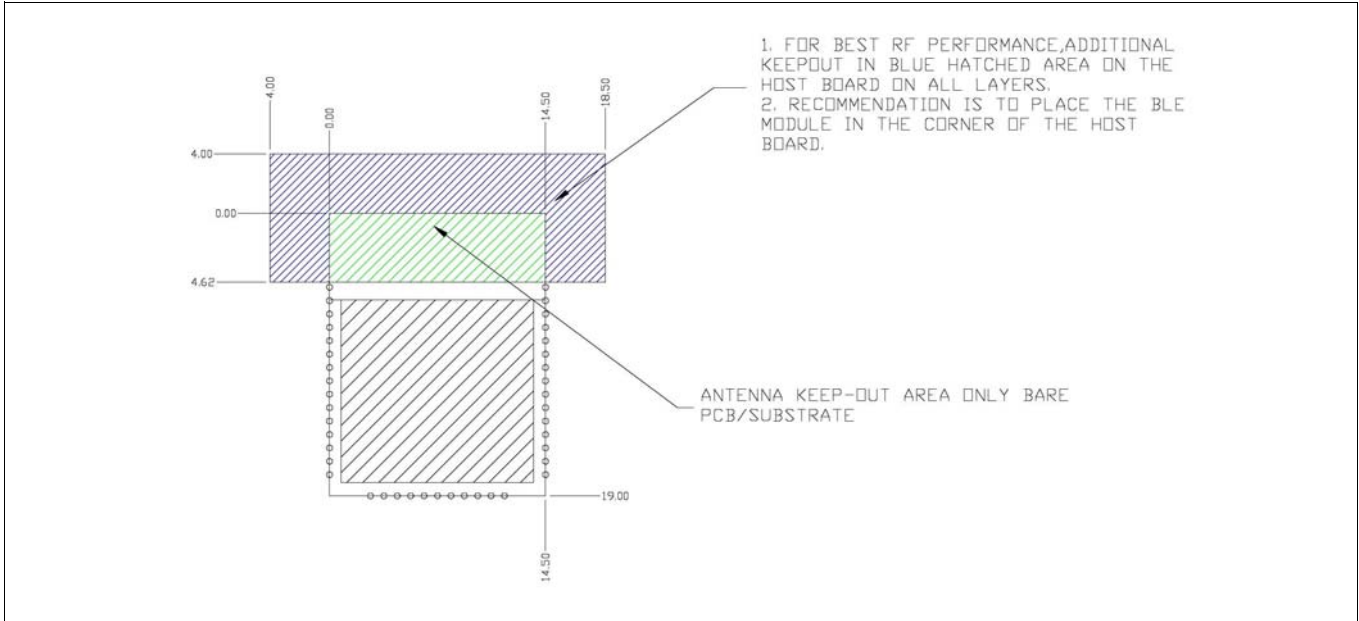
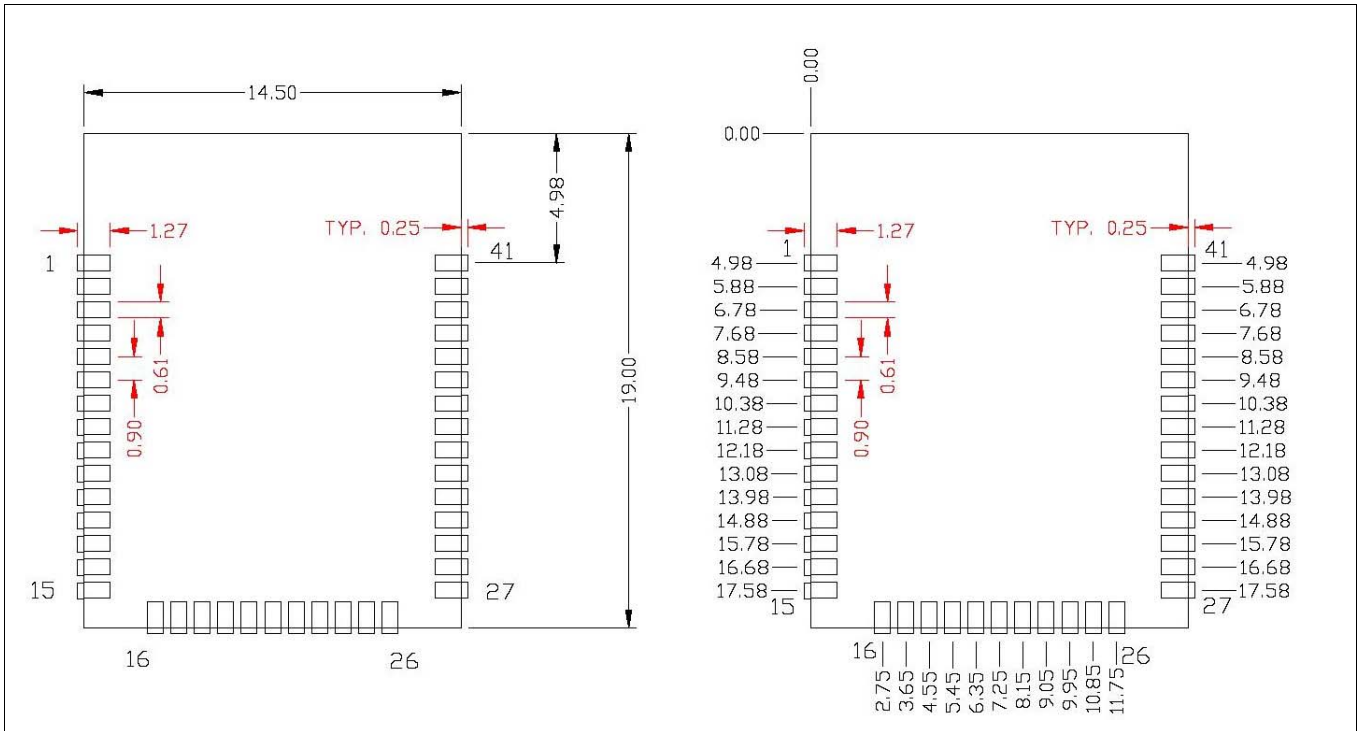

Figure 4 Recommended host PCB keepout area around the CYW20829B0-P4XXI100 antenna
Figure 5 CYW20829B0-P4XXI100 host layout (dimensioned)
- 1. Antenna Area Keepout: The host board directly below the antenna area of the module (see **Figure 4**) must not contain ground or signal traces. This keepout area requirement applies to all layers of the host board.
- 2. Module Placement: The ideal placement of the Bluetooth® module is in a corner of the host board with the PCB trace antenna located at the far corner. This placement minimizes the additional recommended keepout area stated in item 2. Refer to **KBA97095** for module placement best practices.
Figure 5 provides details that can be used for the recommended host PCB layout pattern for the CYW20829B0-P4XXI100. Dimensions are in millimeters unless otherwise noted. Pad length of 1.27 mm (0.64 mm from center of the pad on either side) shown in **Figure 4** is the minimum recommended host pad length. The host PCB layout pattern can be completed using either **Figure 5**. It is not necessary to use all figures to complete the host PCB layout pattern.